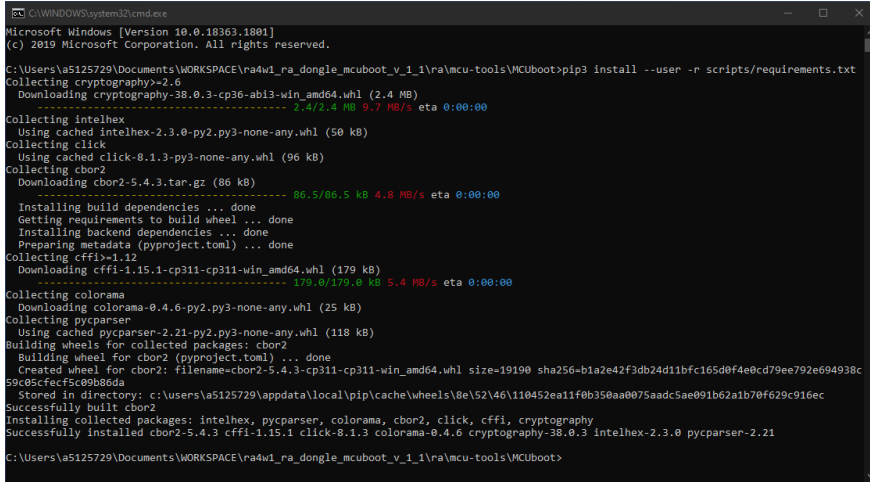

Figure 20. Installing the MCUboot dependencies
7. Next, in the command window, enter the following command line to verify and install all the MCUboot dependencies (Figure 20):